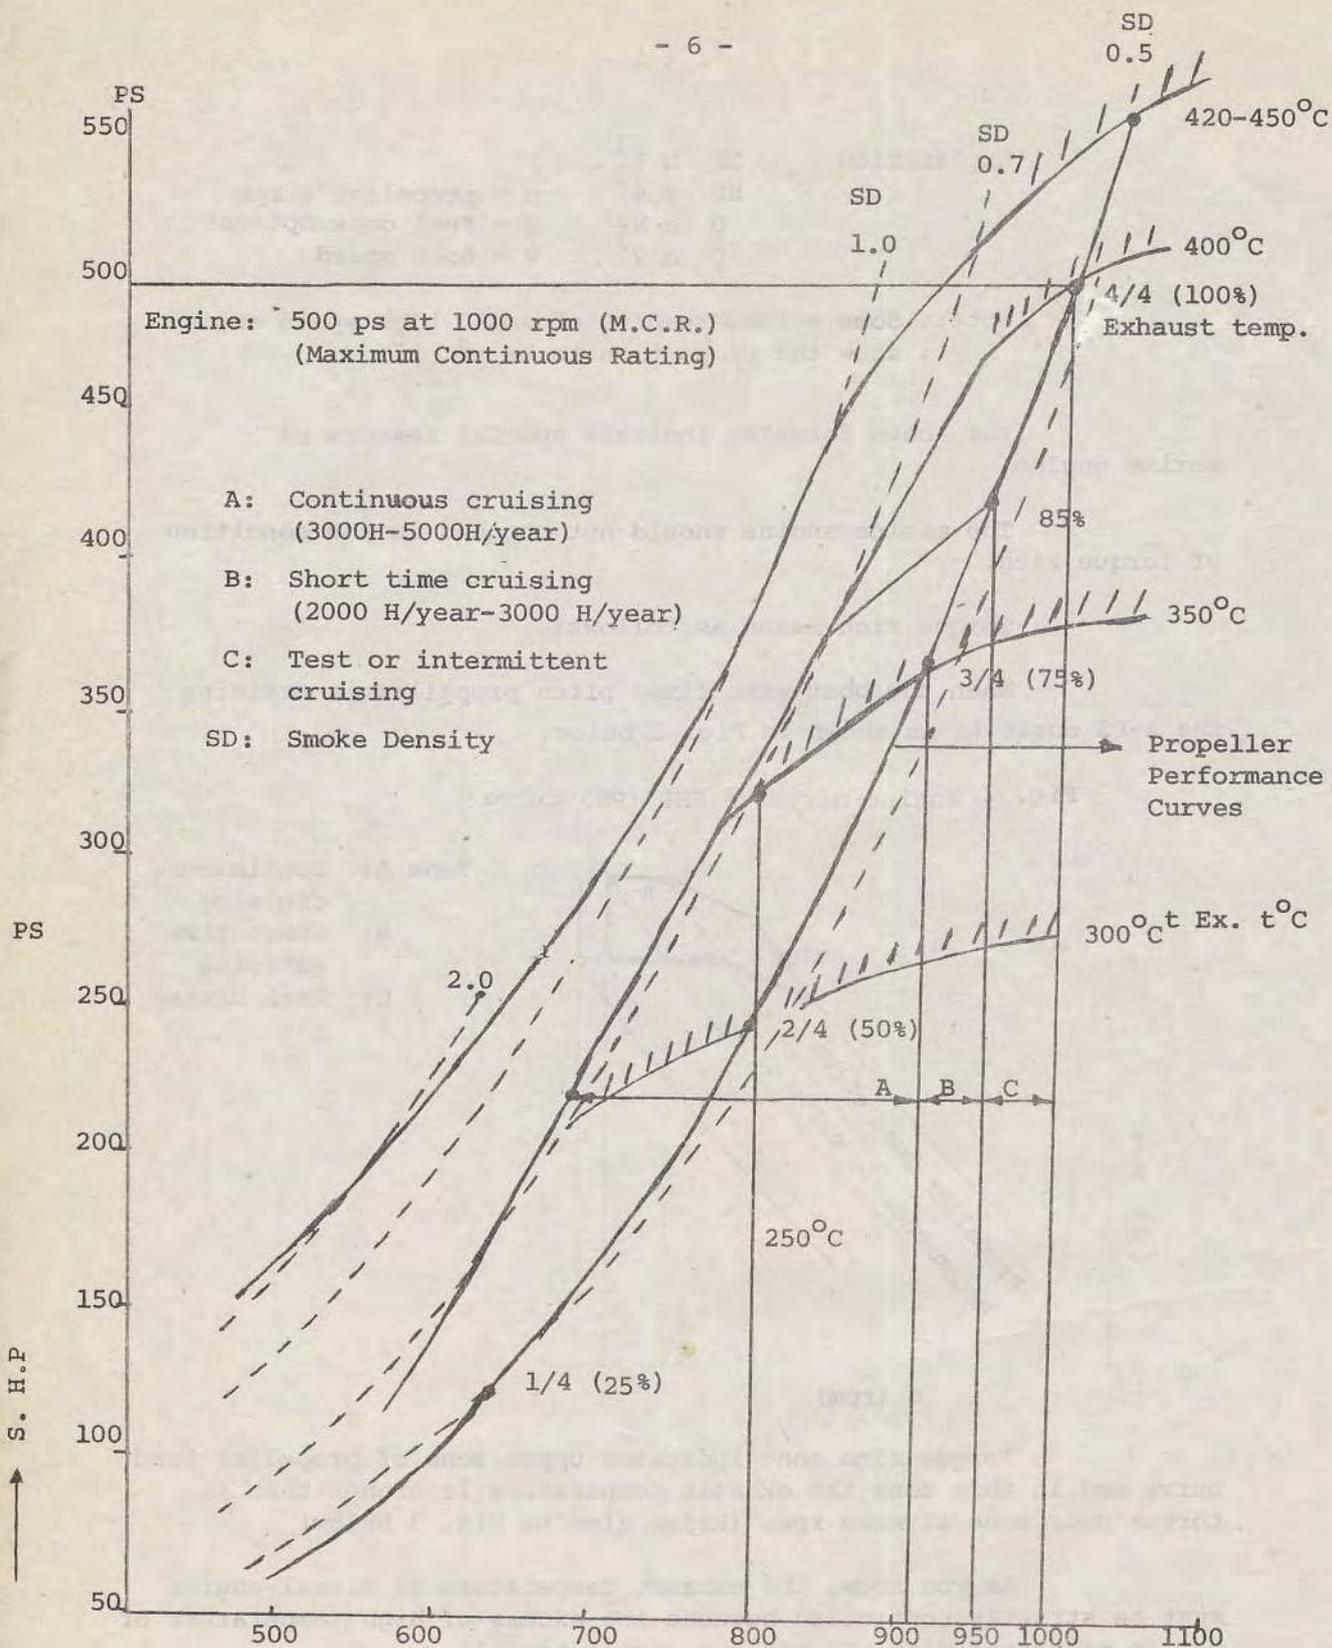

Fig. 3 Engine Revolution (rpm) - SHP (PS) curve
| Fig. 3  | Engine Revolution $n(\text{rpm})$ - SHP (PS) Curve | 6  |
Torque rich zone indicates upper zone of propeller load curve and in this zone the exhaust temperature is higher than in torque poor zone at same rpm. (Refer also to Fig. 3 below)